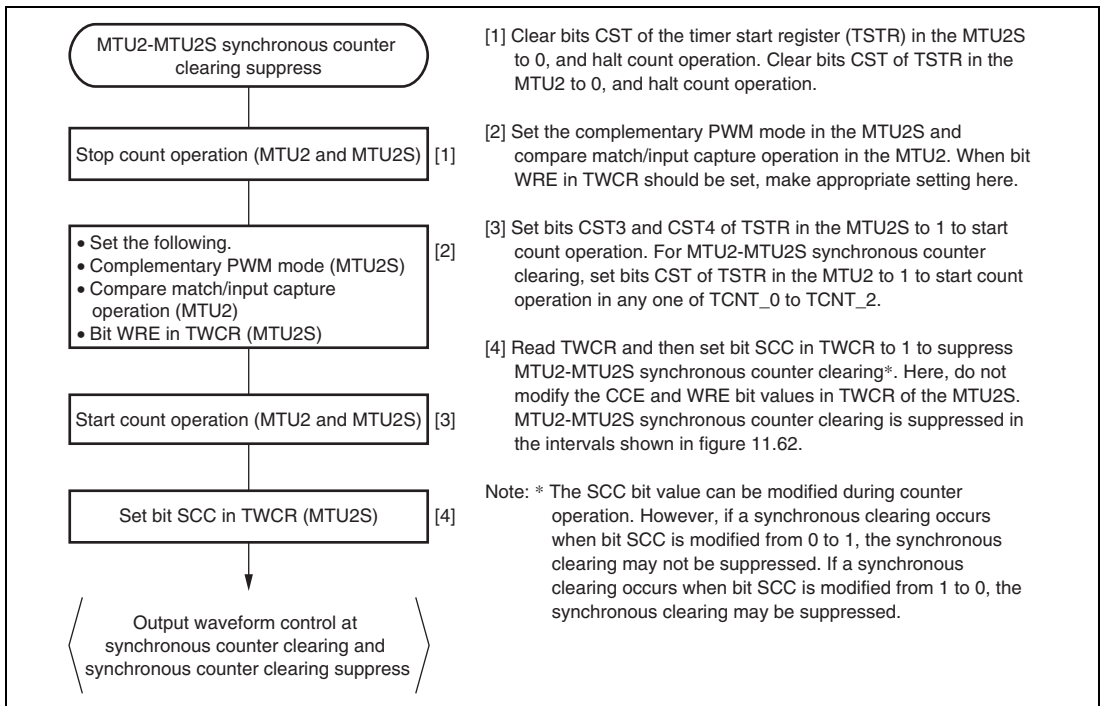

Figure 11.63 Example of Procedure for Suppressing MTU2–MTU2S Synchronous Counter Clearing
- An example of the procedure for suppressing MTU2–MTU2S synchronous counter clearing is shown in figure 11.63.